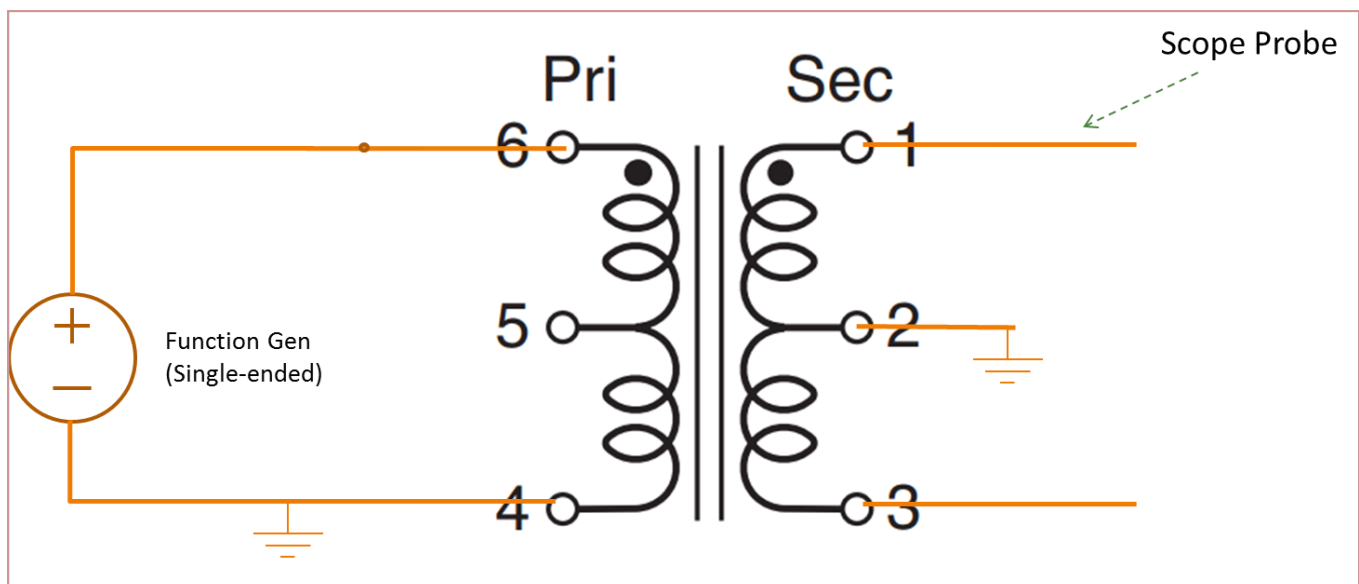

Figure 33. Set-up for post-lab #4. Pin numbers are from the datasheet.
2. Connect the pulse transformer as shown below in Fig. 33. This transformer is a Coilcraft WBT4-1L. This is a 1:3 pulse transformer with center taps on both sides. The frequency response is specified as 40 KHz to 150 MHz. The pin numbers are from the datasheet and the dot on the transformer's DIP-6 package indicates pin 1. Connect only one channel of the function generator to the primary side. Be sure the output is off before connecting to the transformer. Set the DC offset to be 0. Since transformers don't pass DC, any offset will just cause the transformer to heat up. Connect a scope probe to each side of the secondary and connect their ground clips together to the center tap on the secondary side. On your breadboard, be sure to use the shortest possible connections. Ideally, use 1 inch wires to make the connections. Clip the function generator leads and scope probe as close to the transformer as possible. This is because the inductance of the wires will cause significant ringing.